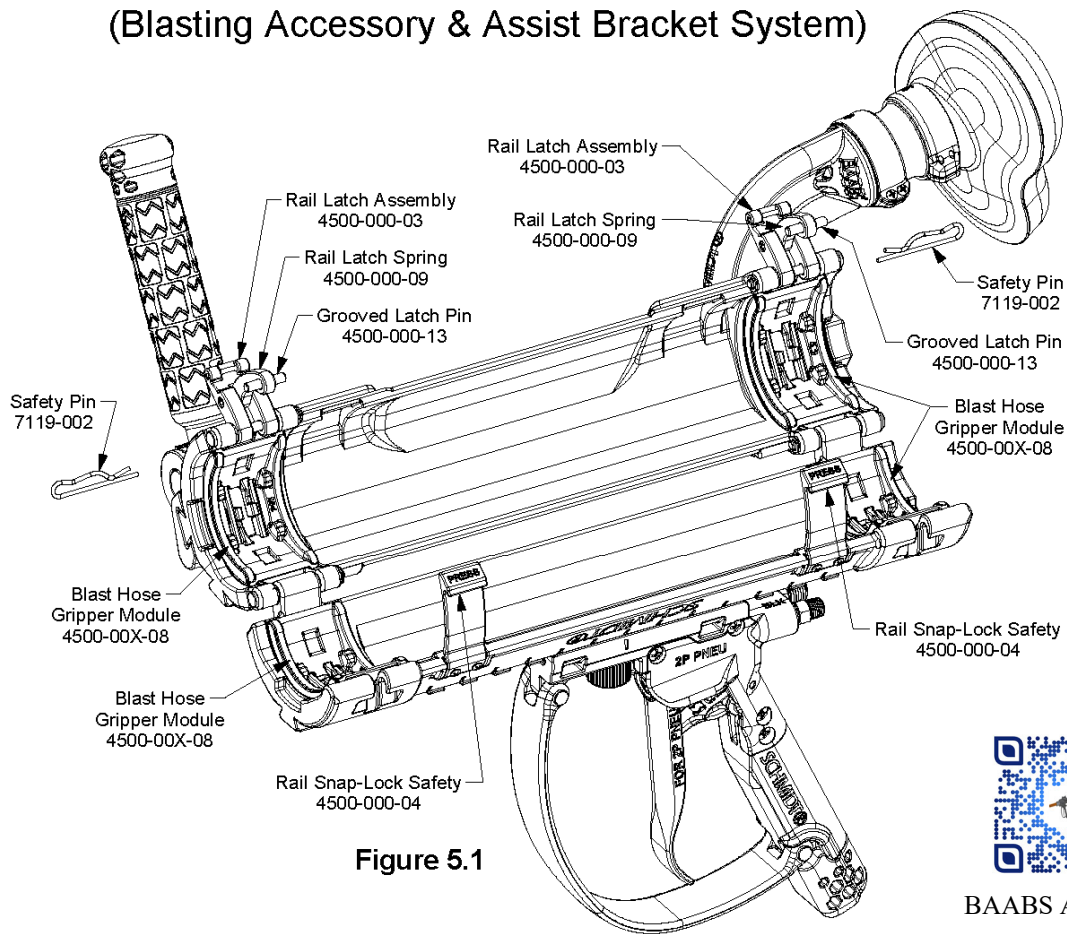
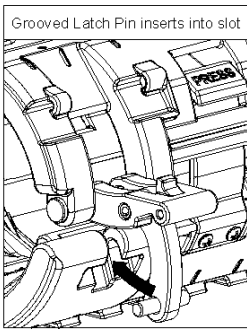

Figure 5.1
Figure 5.3
- 5.1 Install BAABS on the blast hose. Refer to video link in Figure 5.1.
- 5.1.3 Insert Grooved Latch Pin (Figure 5.1) into the slot in Lower Rail. (Figure 5.3)